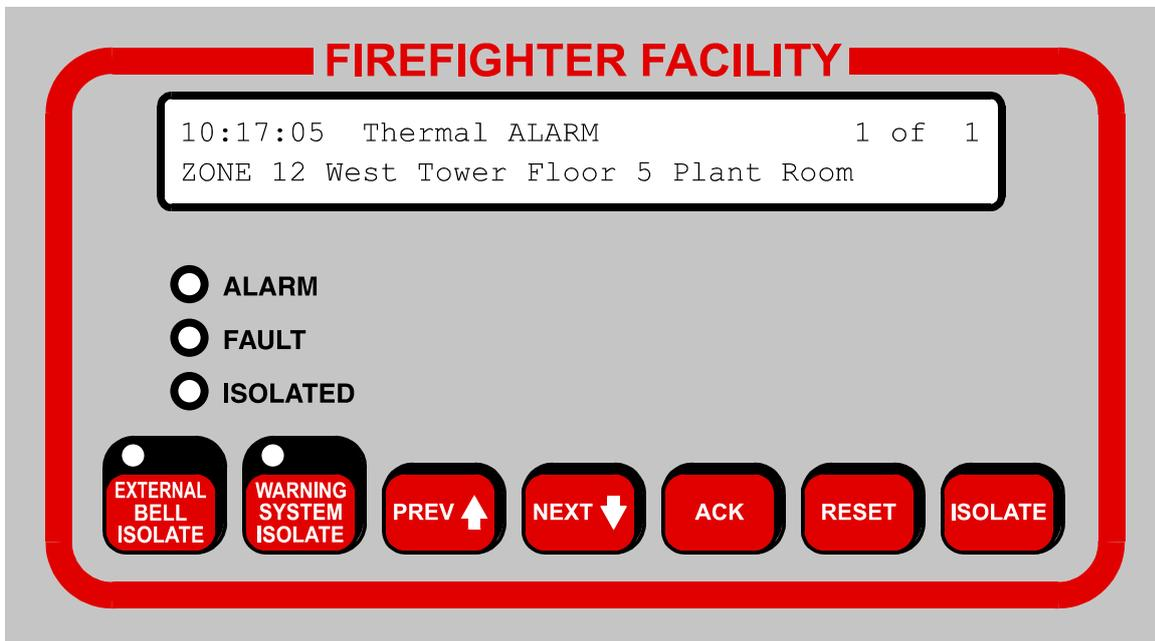

FIG 5.1
When an alarm occurs, the FIP switches from the base (or other) display to FF mode and displays the alarm. The keys that can be used are then limited to those within the Firefighters Facility (FF), plus "CLEAR ESC". The FF is the area of the keypad within the red border, as shown in Figure 5.1.
- (iii) Whether the alarm is acknowledged or not (Figure 5.1 shows an unacknowledged alarm).